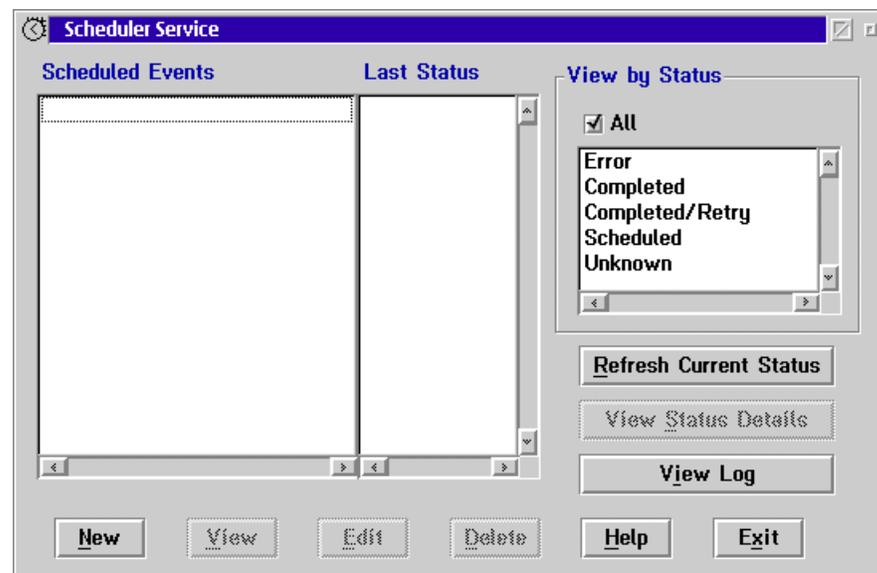

Figure 36. Event Scheduler Main Window
1. Double click on **Event Scheduler**. Figure 36 appears.